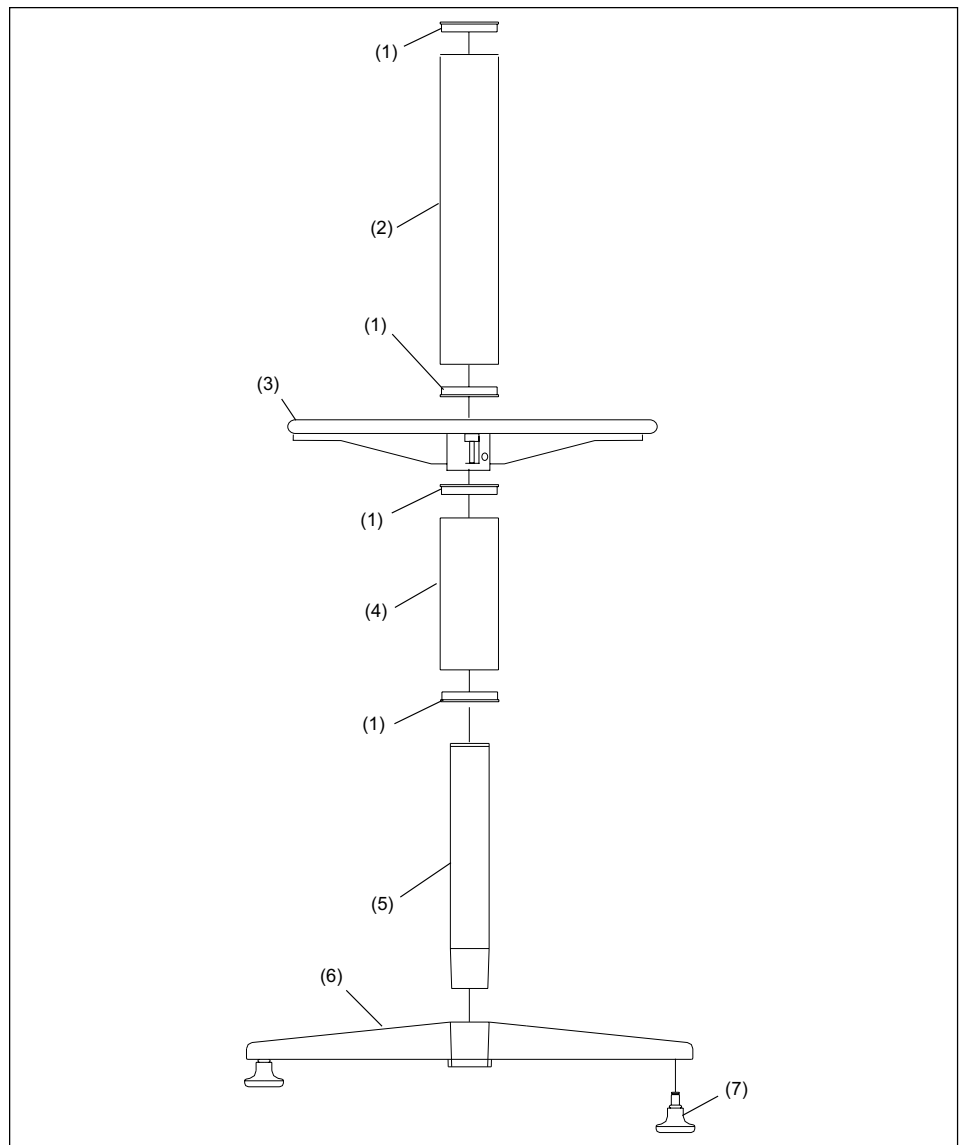

Figure 22. Tall Free Standing Chair Assembly
1. Insert glide into base. Refer to *Figure 22*.
2. Insert tapered end of inner column into base. Refer to *Figure 22*.
3. Insert bearings into each end of short outer tube. Refer to *Figure 22*.
4. Slide outer (lower) tube over inner column and rest on base. Refer to *Figure 22*.
5. Slide foot rest on inner column and rest on outer (lower) tube and tighten set screw. Refer to *Figure 22*.
6. Insert bearings into each end of outer tube. Refer to *Figure 22*.
7. Slide outer (upper) tube on inner column and rest on foot rest. Refer to *Figure 22*.